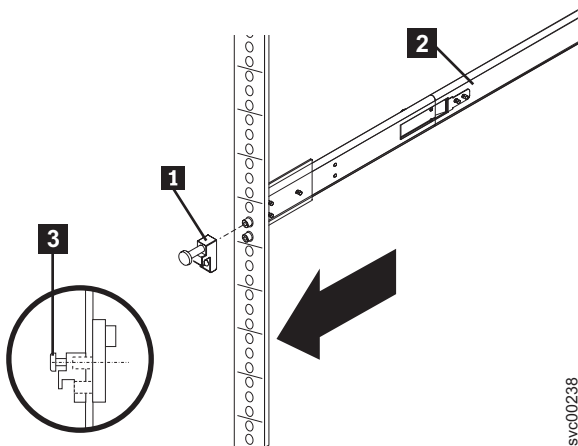

Figure 59. Attaching the latch strike to the front of the slide rail
- Attach one latch strike **1** to the front of the right rail **2**, as shown in Figure 59, using the captive screw **3**. Turn the screw only finger tight. Attach the other latch strike to the front of the left rail in the same way.